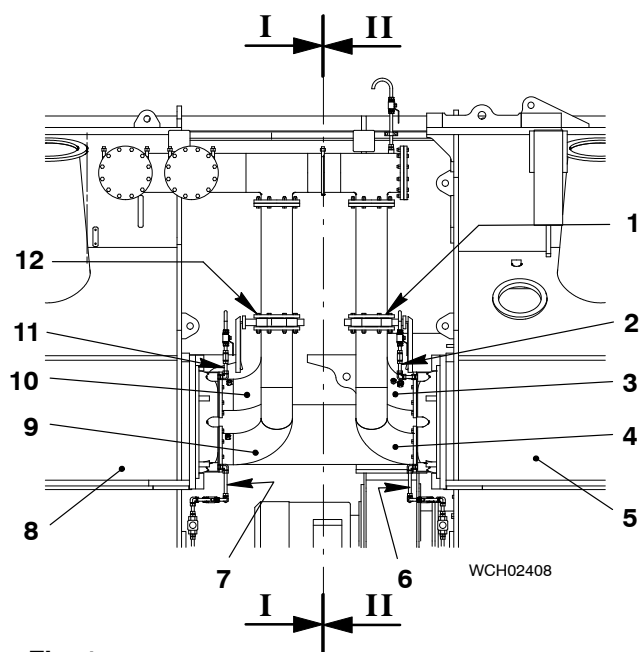

Fig. 1
- 4) Close the butterfly valves (1 and 12, Fig. 1) of each scavenge air cooler (SAC) (5, 8).